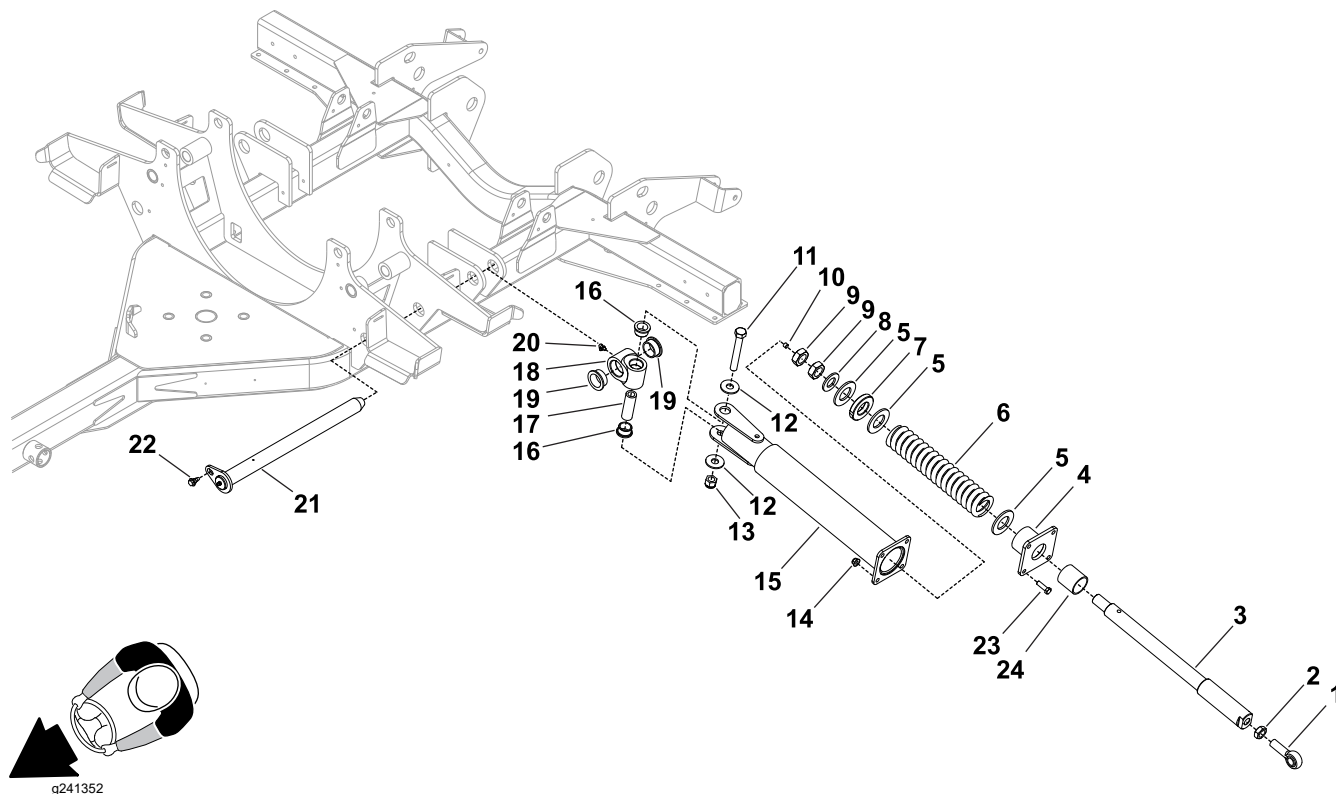

Figure 17
3. Remove the bolt (item 11 in Figure 17), lock nut (13) and flat washers (12) that secures the rod end of the impact arm to the cutting unit frame.
4. Remove the bolt (22) and the lift arm pin assembly (21) from the machine and remove the pivot hub (18).